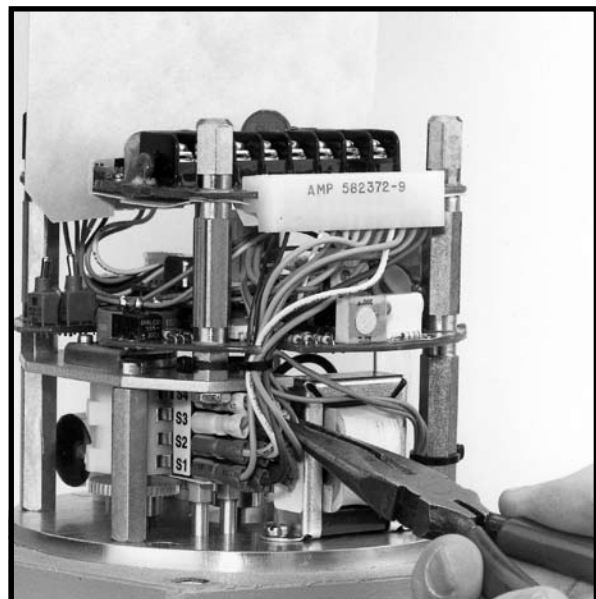

Figure 7
2. To reverse the output shaft direction of travel, the wires to the common terminals of travel limit switches S3 and S4 must be interchanged. The common terminals are those located furthest to the right (see Figure 7).